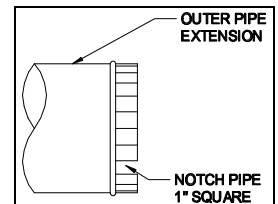
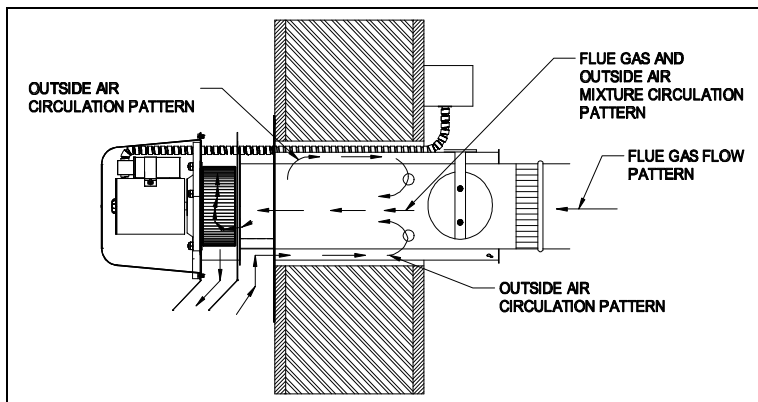

Figure 5
Figure 6
Use a PEK series extension kit or follow installation method below for a double pipe system. To install an outer pipe extension to the SWG power venter, the end pipe cover on the power venter must be removed. Then, cut a 1-inch square notch into the vent pipe extension before attaching the power venter. (See Figure 5) This allows clearance for the adjustment damper. Install the needed pipe extensions and terminate the outer pipe extension with the end pipe cover (see Diagram B). The table above shows minimum allowable clearances when using single or double pipe systems. When the outer pipe is extended over the inner pipe, use the double pipe guidelines when determining clearances. Figure 6 shows how the airflow pattern through an SWG reduces the required clearances to combustibles. **NOTE: Vent pipe joints should be secured with at least (3) three sheet metal screws.**